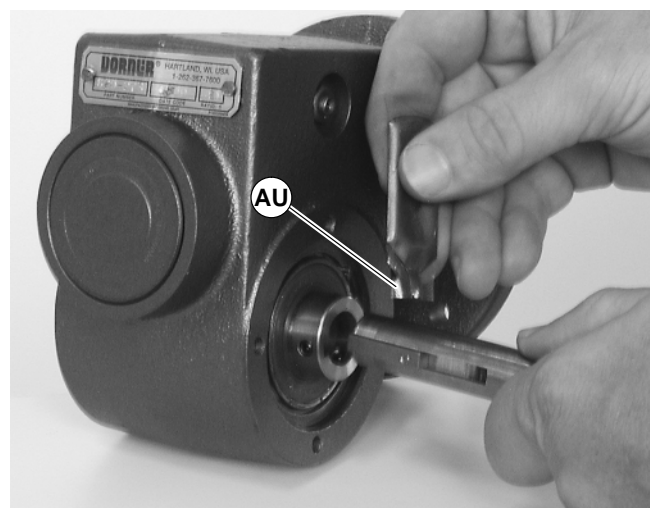

Figure 25
12. Apply grease (AU of Figure 25) to shaft.